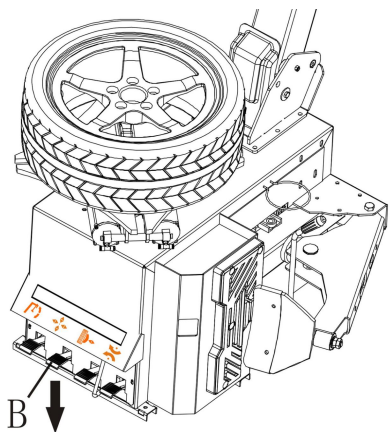

Fig. 19
- Depress pedal B, Place the wheel on the turntable, and lock rim (Fig. 19) .